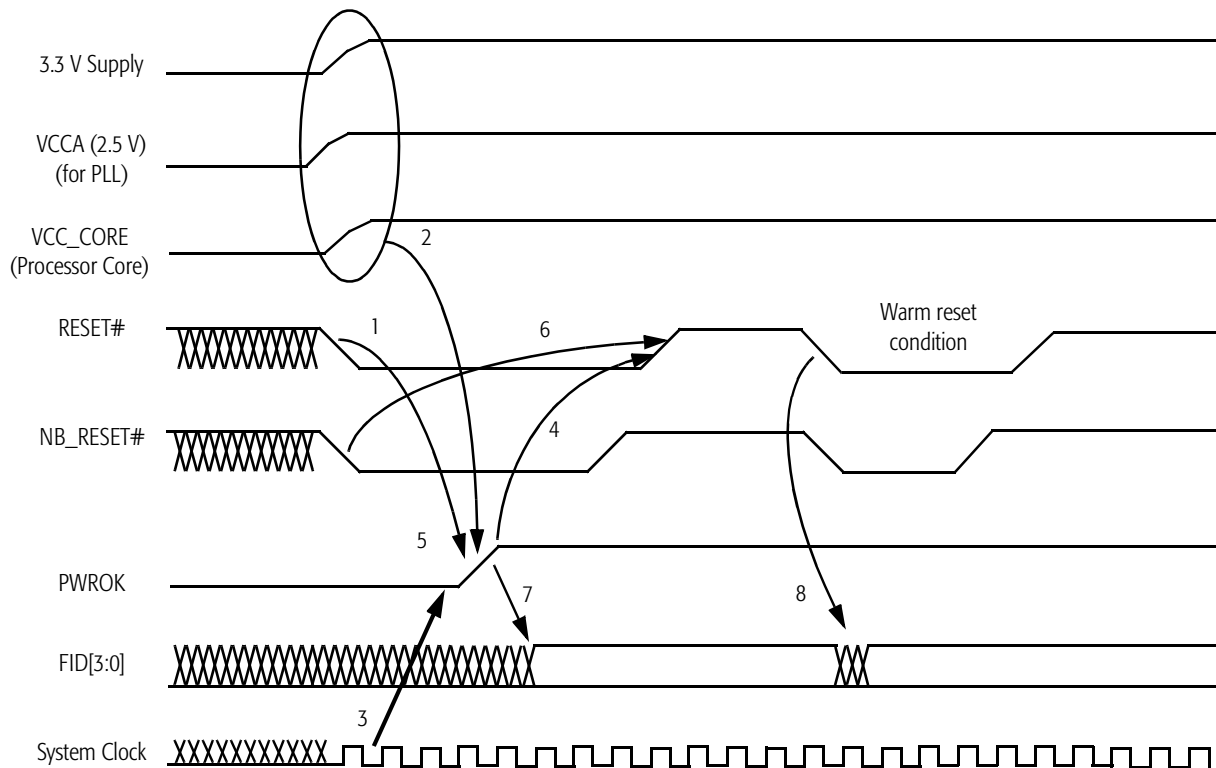

Figure 12. Signal Relationship Requirements During Power-Up Sequence
Figure 12 shows the relationship between key signals in the system during a power-up sequence. This figure details the requirements of the processor.
1. Figure 12 represents several signals generically by using names not necessarily consistent with any pin lists or schematics.
2. Requirements 1-8 in Figure 12 are described in “Power-Up Timing Requirements” on page 44.